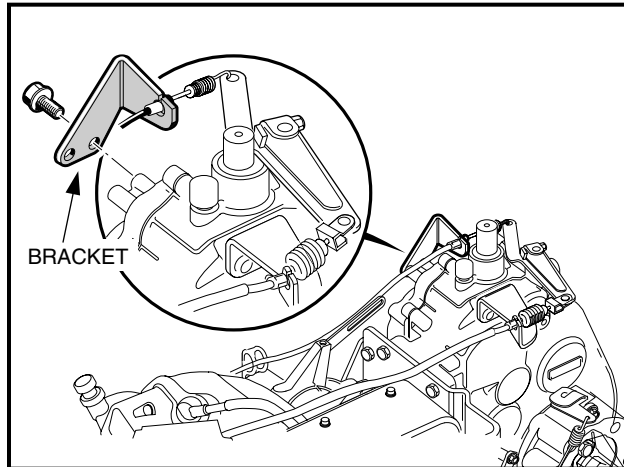

Figure 16a-95 Accelerator Cable Bracket
10. While holding the arm and shaft in the fully counterclockwise position, tighten the governor arm lever nut to 35 in-lb (4.0 N·m) (**Figure 16a-97, Page 16a-44**).
11. Install the key onto the input shaft (**Figure 16a-98, Page 16a-44**).